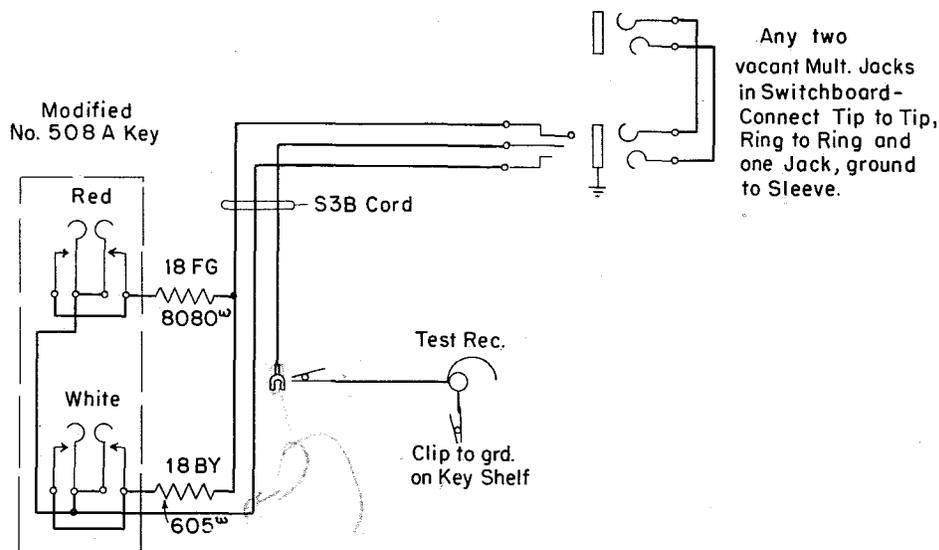

Fig. 1 - Test Set and Vacant Jack Arrangement for Testing Position Coin Control Circuit
2.01 The test set to be assembled locally as per Fig. 1, includes the following material and apparatus: One No. 508A Key (Remote Control Key), one S3B Cord equipped with a 310 Plug and three No. 131 Cord Tips (3W1A Cord), one 18FG Resistance and one 18BY Resistance.
1	Connect two vacant multiple jacks as follows: Connect the tip and ring of one jack to the tip and ring of the second and on one connect ground to the sleeve (See Fig. 1).